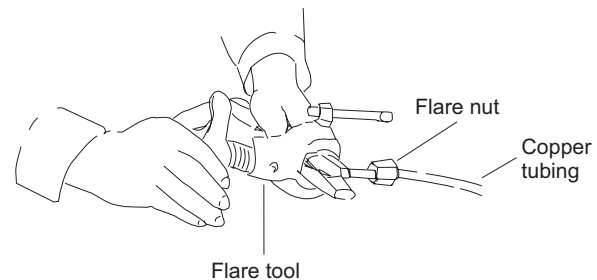

Fig. 2-17
- (3) Remove the flare nut from the unit and be sure to mount it on the copper tube.
- (4) Make a flare at the end of copper tube with a flare tool. (Fig. 2-17)